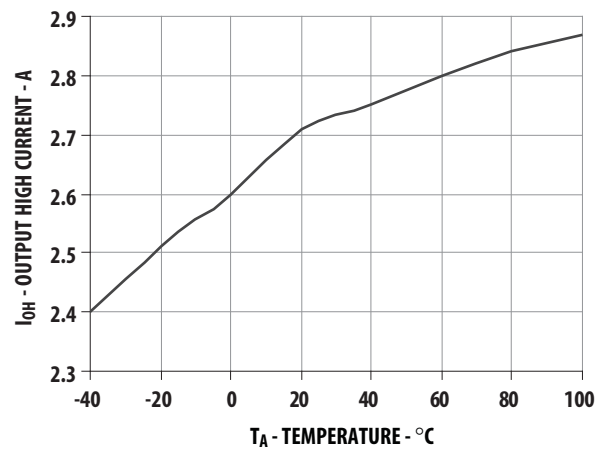

Figure 2. IOH vs. Temperature
– maximum values allowed in the event of a failure, also see Figure 2.